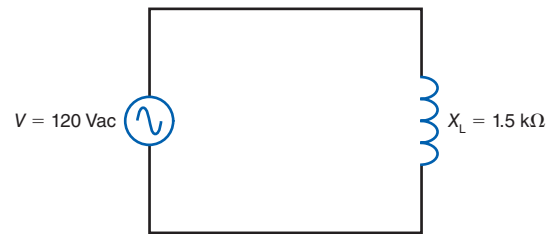

Figure 19-11
- 19.20** In Fig. 19-11, calculate the current, I .
- 19.21** In Fig. 19-11, what happens to the current, I , when the frequency of the applied voltage